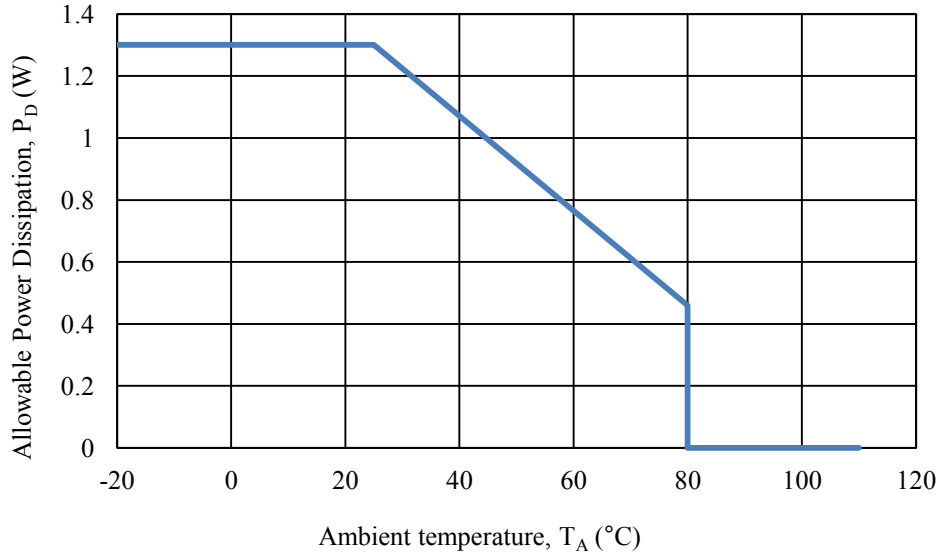

Figure 5-1 Thermal Derating Curve
* Since the between V_{IN} and I_{LED} has following relationship, the value of V_{IN} is different by condition. Allowable power dissipation, P_D is calculated by Figure 5-1.
Figure 5-1 shows the thermal derating curve that the IC is mounted on the pattern layout example of Section 12.2.2, and is calculated based on the junction temperature 110 °C. When the junction temperature becomes 110 °C or more, thermal shutdown might be activated.